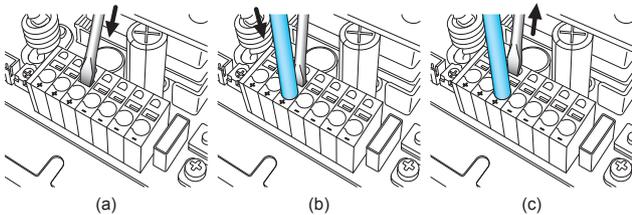

Fig.6.6 Connecting method of Stranded wire
- Step1: Insert a flat-blade screwdriver into the release hole. (Refer to the fig.6.6(a).)
- Step2: Insert the wire until the electrode is not visible with the flat-blade screwdriver inserted in the release hole. (Refer to the fig.6.6(b).)
- Step3: Remove the flat-blade screwdriver from the release hole. (Refer to the fig.6.6(c).)